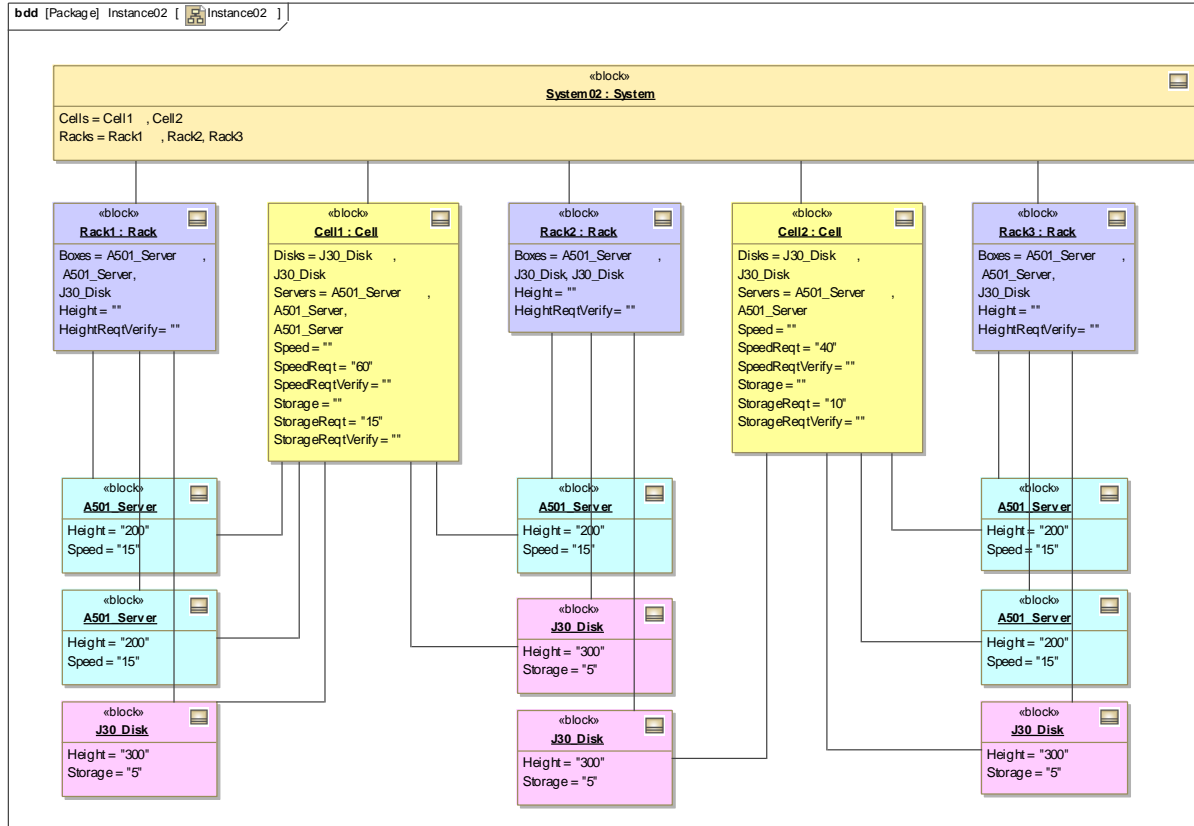

Figure 9.10 Instance02 diagram containing two Cells spread over three Racks
12. Create a new instance of a system configuration comprised of two computer cells spread over three racks. See Figure 9.10. Repeat process in Step 10.